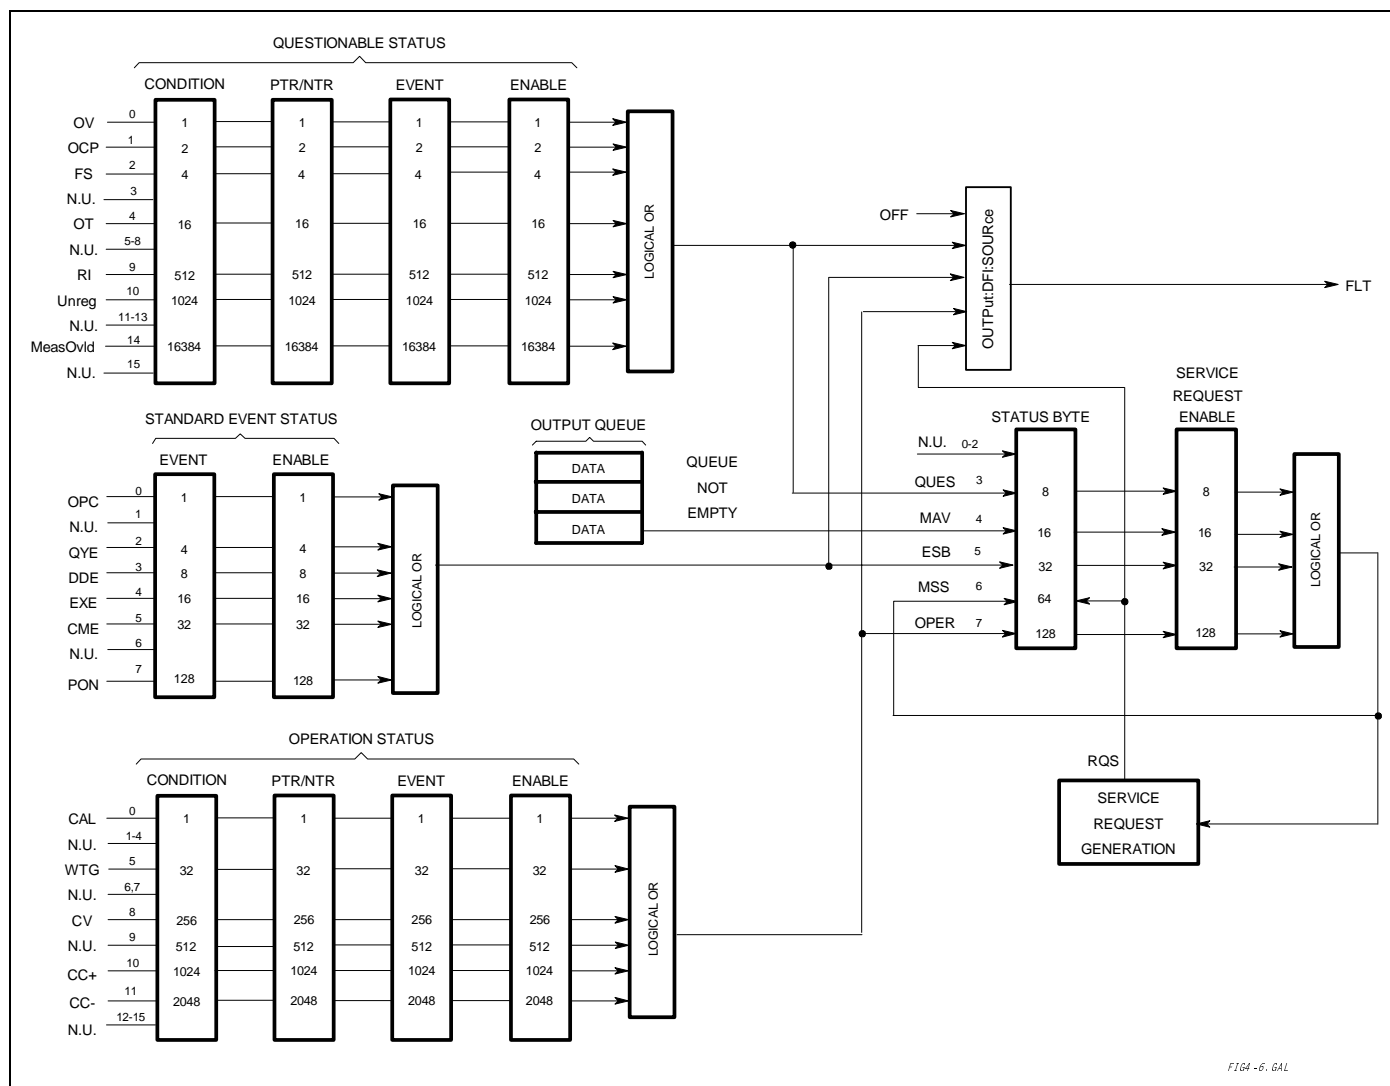

Figure 3-7. DC Source Status Model
Figure 3-7 shows the status register structure of the dc source. Table 3-1 defines the status bits. The Standard Event, Status Byte, and Service Request Enable registers and the Output Queue perform standard GPIB functions as defined in the *IEEE 488.2 Standard Digital Interface for Programmable Instrumentation*. The Operation Status and Questionable Status registers implement functions that are specific to the dc source.
The Questionable Status registers record signals that indicate abnormal operation of the dc source. As shown in figure 3-7, the group consists of the same type of registers as the Status Operation group. The outputs of the Questionable Status group are logically-ORed into the QUESTionable summary bit (3) of the Status Byte register.
This group consists of an Event register and an Enable register that are programmed by Common commands. The Standard Event event register latches events relating to instrument communication status (see figure 3-7). It is a read-only register that is cleared when read. The Standard Event enable register functions similarly to the enable registers of the Operation and Questionable status groups.
This example assumes you want a service request generated whenever the dc source switches to the CC (constant current) operating mode, or whenever the dc source's overvoltage, overcurrent, or overtemperature circuits have tripped. From figure 3-7, note the required path for a condition at bit 10 (CC) of the Operation Status register to set bit 6 (RQS) of the Status Byte register. Also note the required path for Questionable Status conditions at bits 0, 1, and 4 to generate a service request (RQS) at the Status Byte register. The required register programming is as follows: